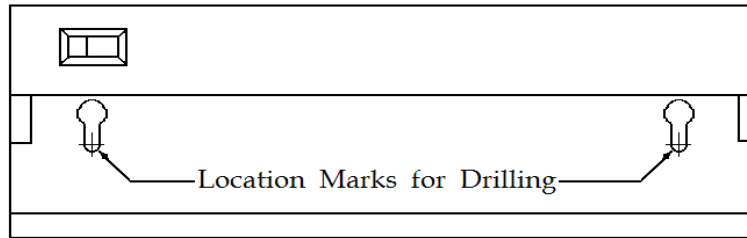

Figure 1
2. Place a mark on the shelf in the center of the small end of each keyhole slot. (See figure 1)